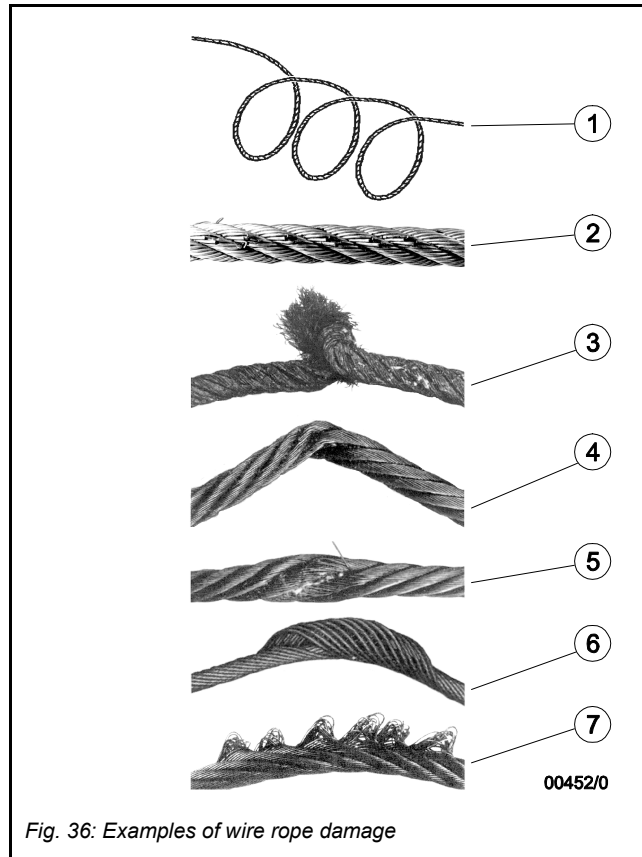

Fig. 36: Examples of wire rope damage
- Kinking, crushing, birdcaging, or any other distortion of the wire rope structure (Fig. 36).